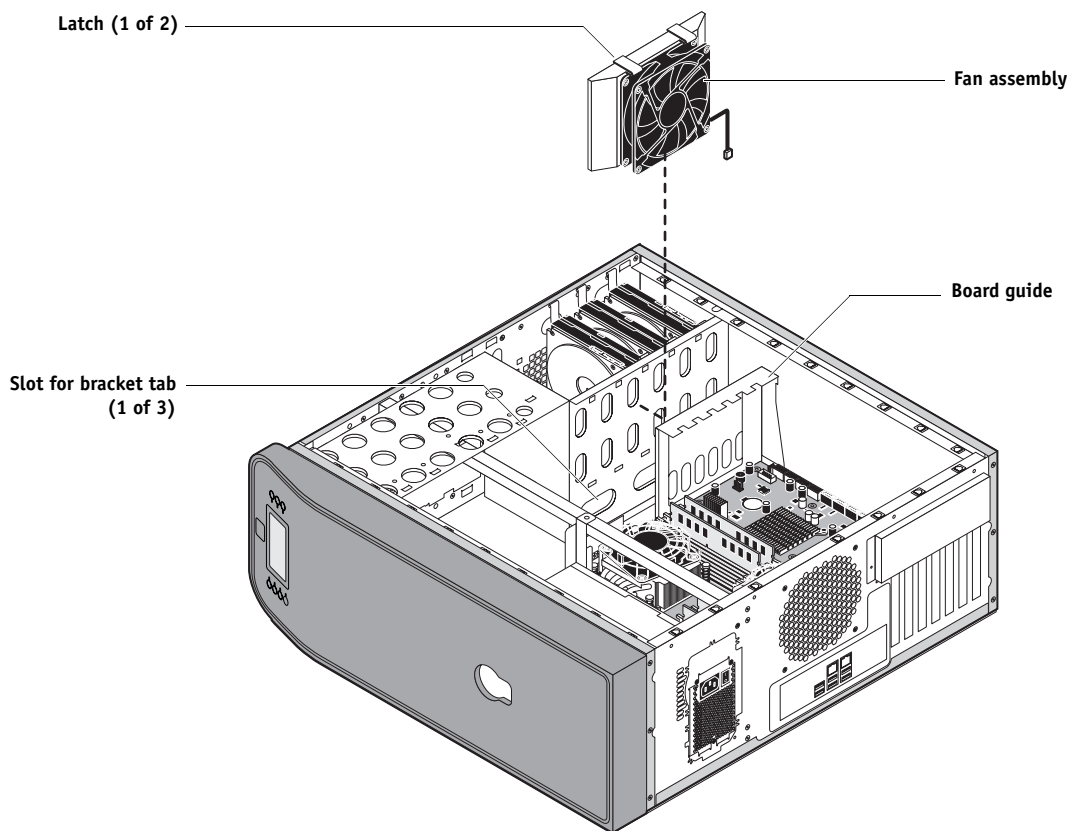

FIGURE 37: Removing/replacing the front fan assembly
3. Remove the fan assembly from the chassis (see Figure 37).
3. Insert the fan assembly into the space between the board guide and the chassis (see Figure 37 on page 110).**4. Secure the fan assembly to the chassis.**
Fit the three tabs at the bottom of the mounting bracket into the three slots in the chassis (see Figure 37 on page 110). Press the assembly flat against the chassis until the latches on the mounting bracket lock into place.